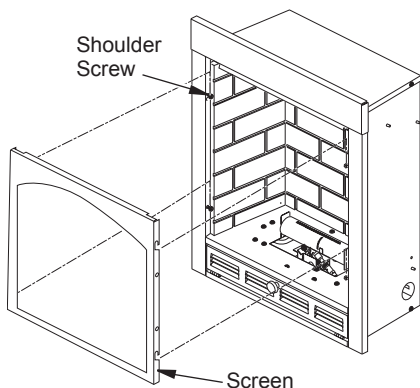

Figure 2 - Removing and Replacing Screen
1. Remove two screws that hold fireplace screen in place for shipping. These screws are located near top of screen. Discard screws. Lift fireplace screen up and pull out to remove (see Figure 2, page 6). Set screen aside until installation has been completed.